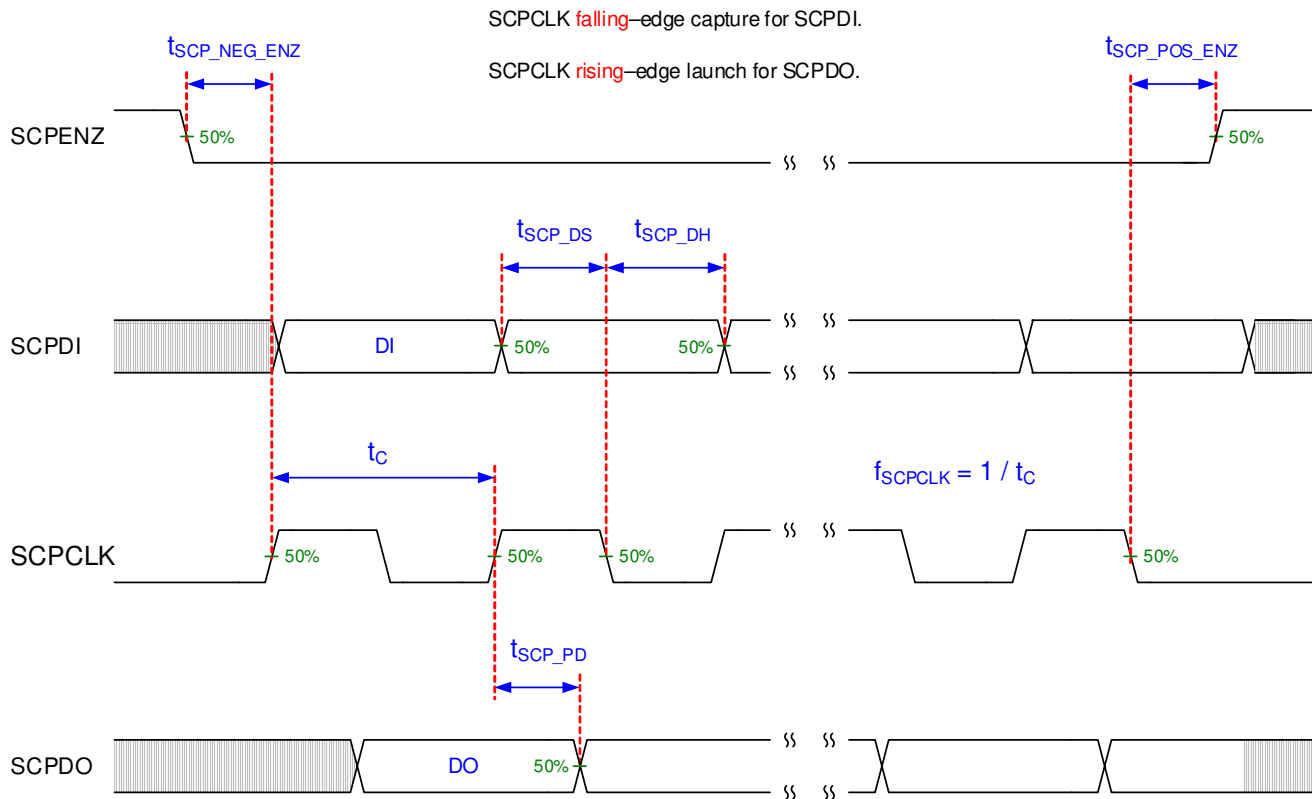

图 6-2. SCP Timing Parameters
- (6) PWRDNZ input pin resets the SCP and disables the LVDS receivers. PWRDNZ input pin overrides SCPENZ input pin and tri-states the SCPDO output pin.
- (7) The SCP clock is a gated clock. Duty cycle shall be 50% \pm 10%. SCP parameter is related to the frequency of DCLK.
- (8) Refer to 图 6-2.
- (9) SCP internal oscillator is specified to operate all SCP registers. For all SCP operations, DCLK is required.